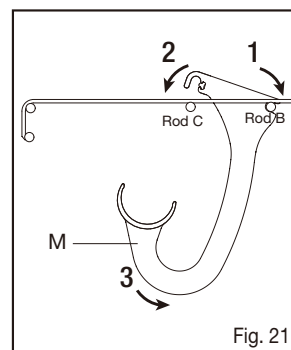
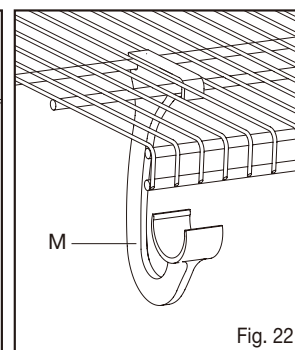

Fig. 21
Fig. 22
- ☐ Put the closet rod support bracket (M) at an angle as shown and place the back part onto the horizontal rod (B) (see Fig. 21).
- ☐ Pull down the closet rod support bracket (M) and snap onto the shelf's front rod (C) (see Fig. 21 and Fig. 22).